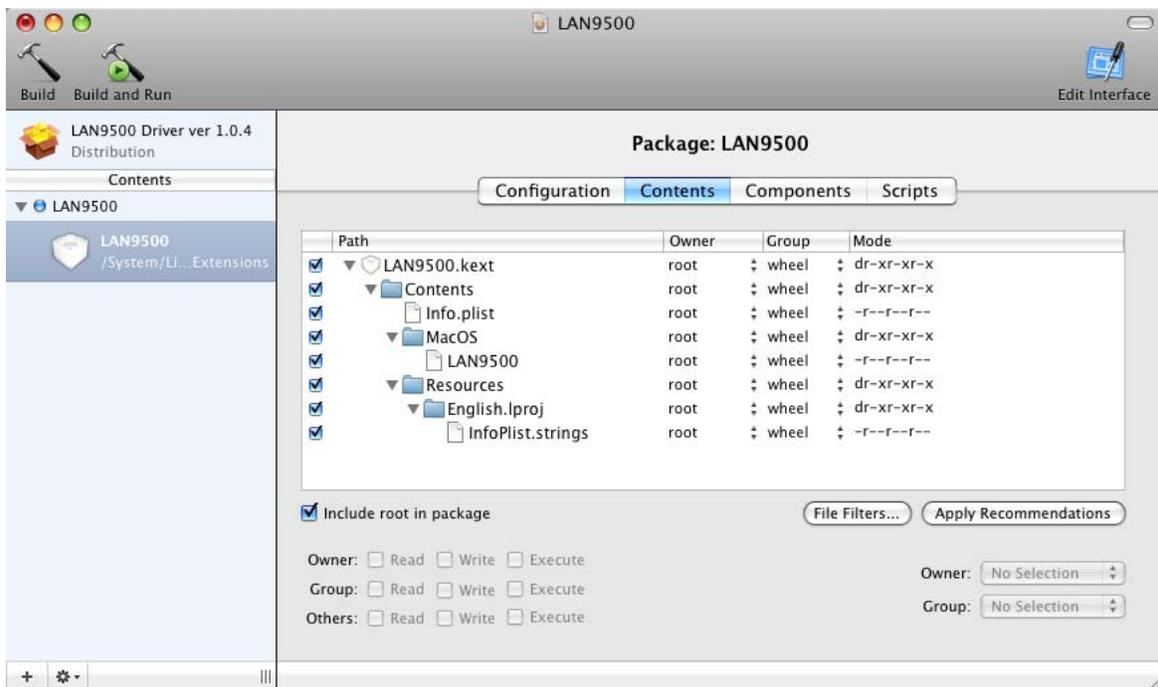

Figure 7.10 Content Information
- Modify the file attributes under “Contents” heading as shown in Figure 7.10.